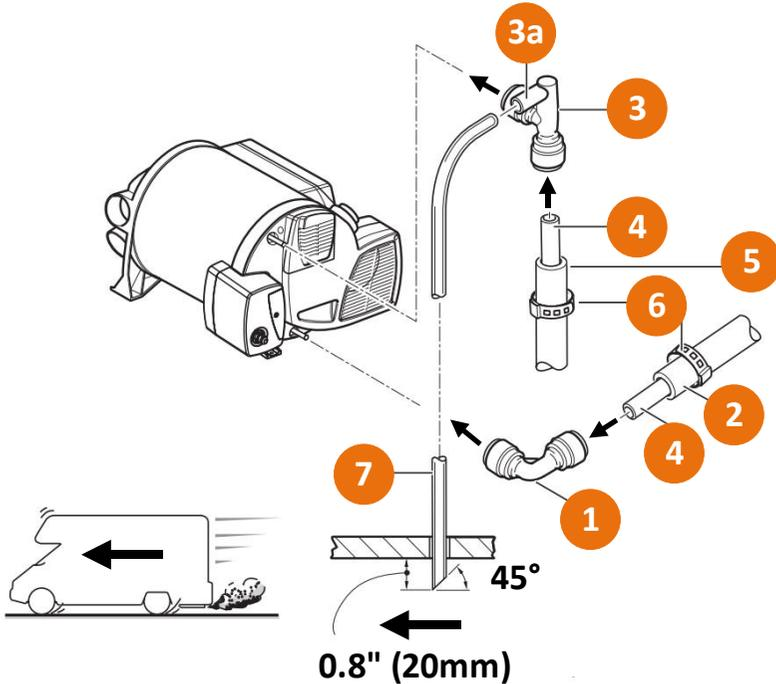

Figure 15
4. Make sure that the venting hose extends only 0.8” (20mm) beneath the motorhome’s undercarriage. Cut the end of the hose at a 45-degree angle (Figure 15).